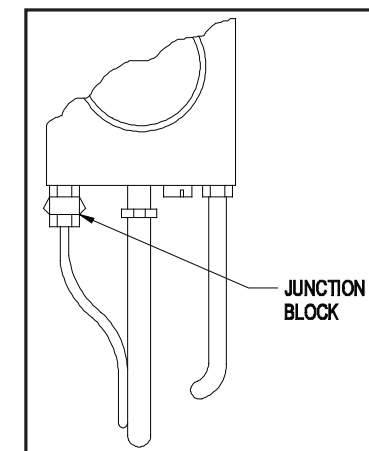

Figure 8
2. Thread the junction block into the thermocouple port and thermocouple into the bottom of the junction block. (See Figure 8)